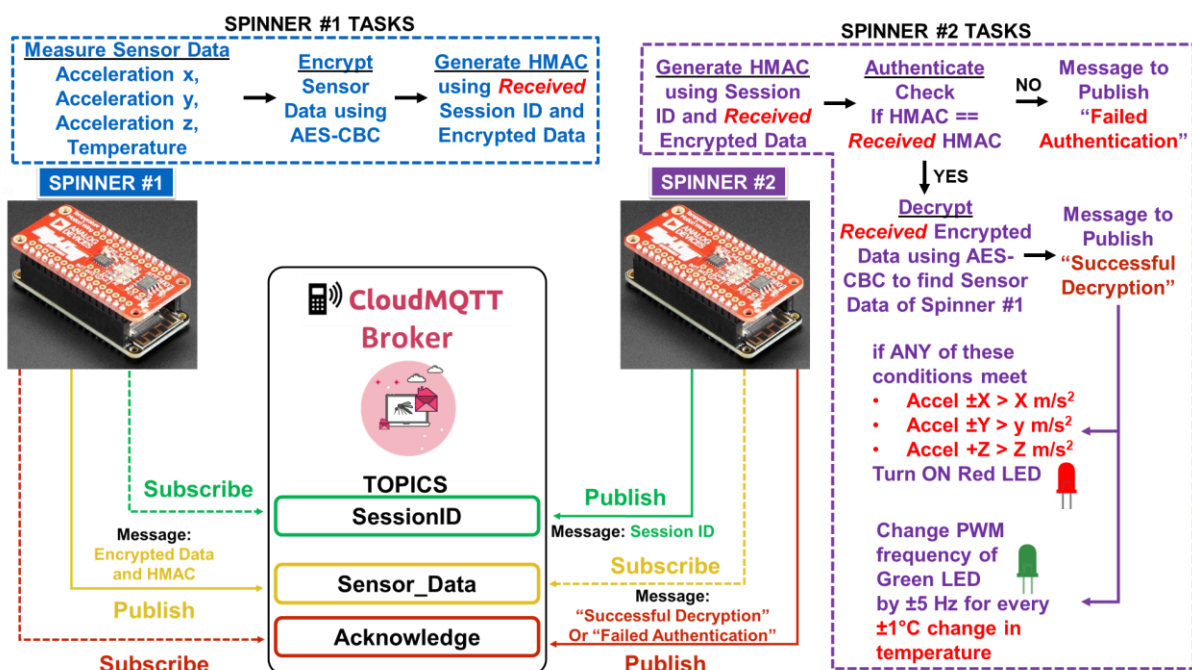

Figure 1. High level Overview of Application
Both team members should use the “spinner” i.e., the *ESP32 Feather board* and *Adafruit Sensor FeatherWing* assembly, you created in Lab5 and exchange data in a **secure/encrypted** method using MQTT communication protocol. Fig. 1 shows a high-level overview of the application the team should build.
1.1. Overall Application Workflow (Fig. 1)
NOTE 1: In Fig. 1, and the overall application workflow described above, **encrypted data** refers to combination of **encrypted nodeid** (unique ESP32 id), **encrypted initialization vector** (random number generated by Spinner #1 for each cycle of *measure-encrypt-generate HMAC*), and **encrypted sensor data** (Accel X, Y, Z, Temperature). Refer to the provided *crypt.py* file.